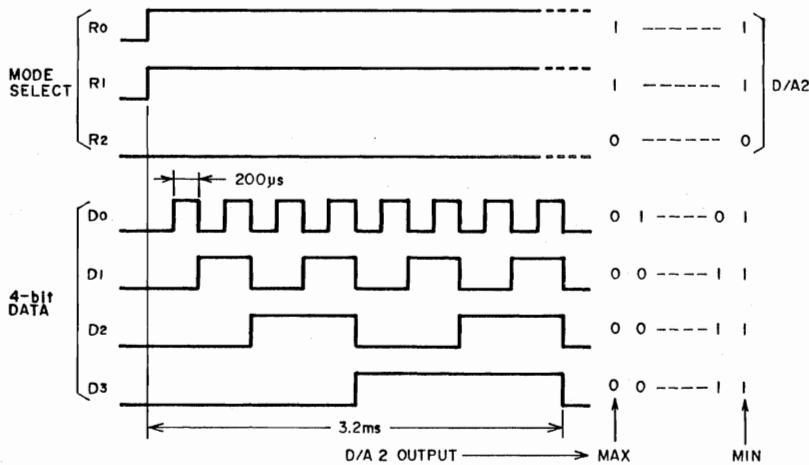

Fig. 12-8 Comparative Mode Data Format
(8) After the reset out becomes Low in (6) above, if the comp in becomes Low within 400 ms, then it switches to comparative mode (refer to figures 12-8 and 12-9). This comparative mode checks if the recorded level is within the acceptable limits or not.
(9) In the comparative mode, D/A 2 is selected on U603 by the mode select signal, and the 4-bit data is converted to analogue (DC) signals by D/A 2, and applied to pin 3 of the U607 comparator.
(10) In the comparative mode, the values for VCA, EQ, and D/A 1 in U603 are maintained at the same as they were during leader tape detection mode by the hold condenser.
(11) The 4-bit data changes from 0000 to 1111, changing the D/A 2 output voltage from maximum to minimum.
(12) When 0000 4-bit data is detected, the potential of pion 3 exceeds that of pin 2 on U607, changing comp in from Low to High.
(13) In response to the changing 4-bit data, the potential of pin 3 of U607 falls in a step form, and when it drops below that of pin 2